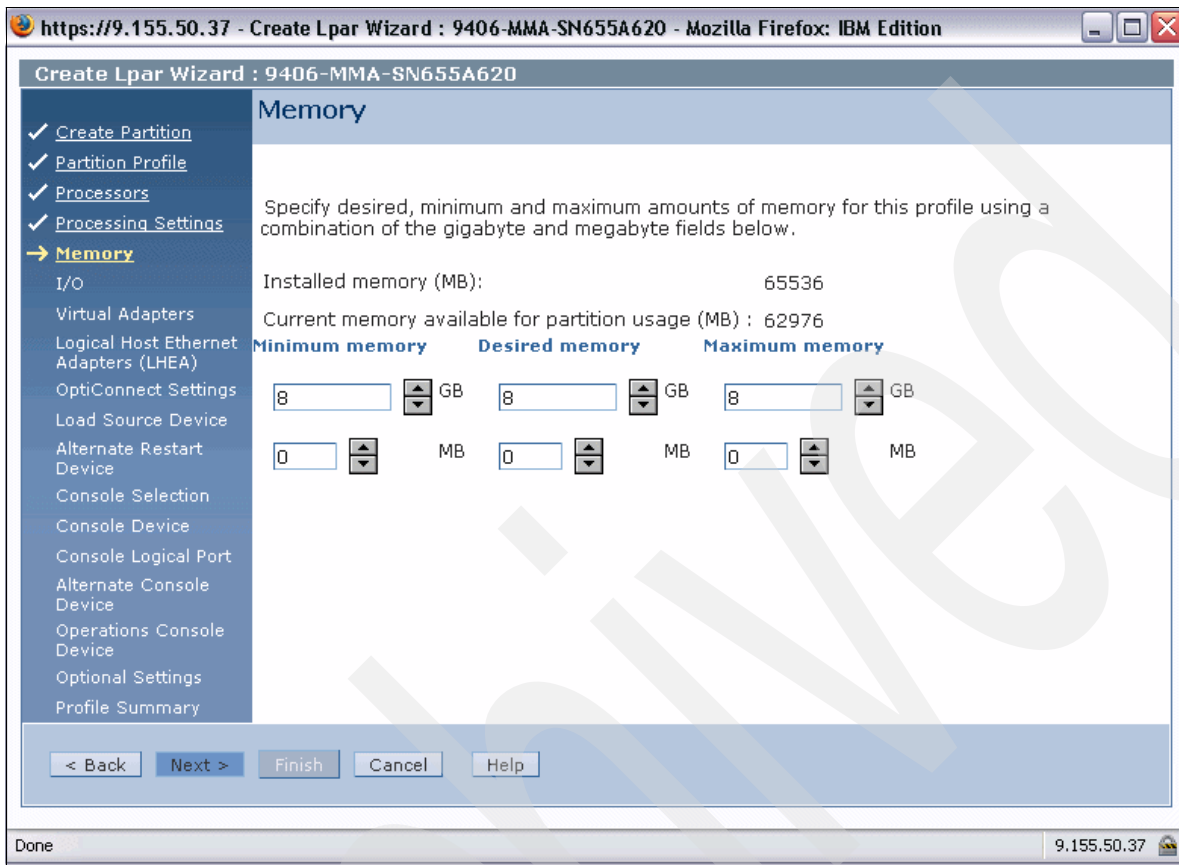

Figure 6-26 Create LPAR Memory dialog
- For our IBM i client partition we like to have 8 GB of main memory, so we enter the value of 8 for the minimum, desired, and maximum memory settings and click **Next** to proceed, as shown in Figure 6-26.